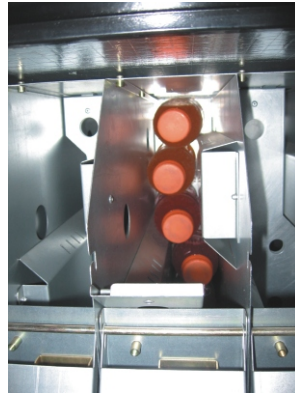

Figure 19 Fill the front section last
- d. Push the divider closed and load the “front” section to full capacity (Figure 19).